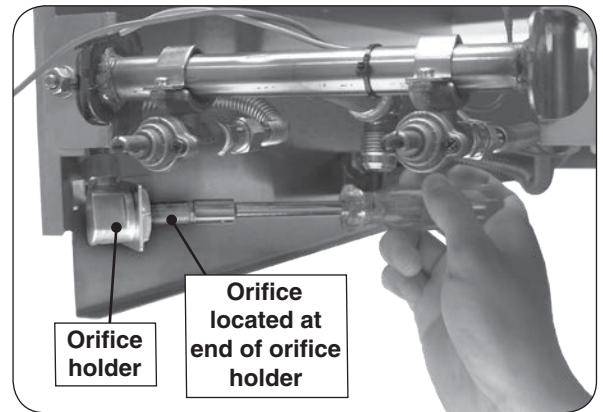

Fig. 30-1 Orifice location
4. Using a $\frac{3}{8}$ " socket nut driver, remove the orifice from the orifice holder (see Fig. 30-1) and check the number stamped on the orifice face.